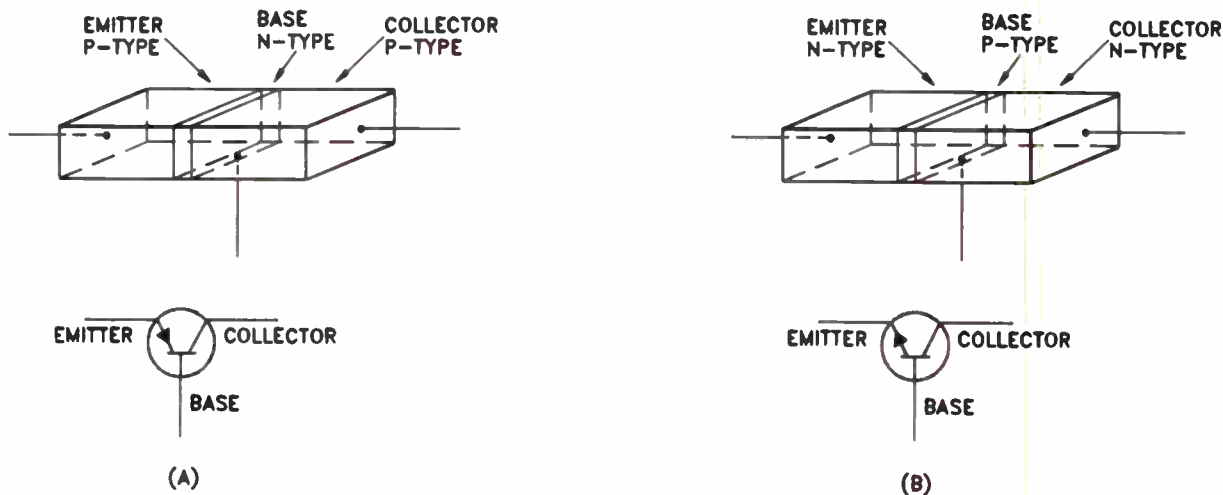

Figure 1. (A) A pnp junction transistor and its schematic symbol. (B) An npn junction transistor and its schematic symbol.
The two-junction transistor is made from a single crystal having three regions. The center region is made of either n-type or p-type material. The two end regions are made of the opposite type material. Figure 1(A) shows one type of transistor where the center region is made of n-type material. The center region is called the *base*. At one end is the *emitter*, and at the other end is the *collector*. Both ends are made
Figure 1(B) shows another transistor where the base is made of p-type material and the emitter and collector are made of n-type material. This type of transistor is called an *np_n transistor*.
Figure 1 also shows the schematic symbols used to represent both types of transistors. Notice that in the pnp type, the arrow on the emitter points toward the base, while in the npn transistor, the arrow on the emitter points away from the base. It is important that you remember the names of the three parts of the transistor, as well as the schematic symbols used for pnp and npn transistors.